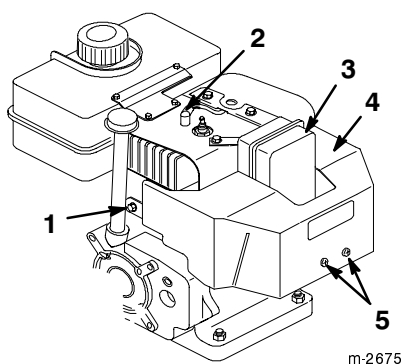

Figure 8
If you operate the engine when the air temperature is above 40°F (4°C), remove the carburetor heater box (Fig. 8).
1. Disconnect the wire from the spark plug and make sure that the wire does not contact the plug (Fig. 8).
4. Remove two Phillips screws, two hex head screws, and one lock washer that secure the carburetor heater box in place (Fig. 8).
8. Connect the wire to the spark plug (Fig. 8).